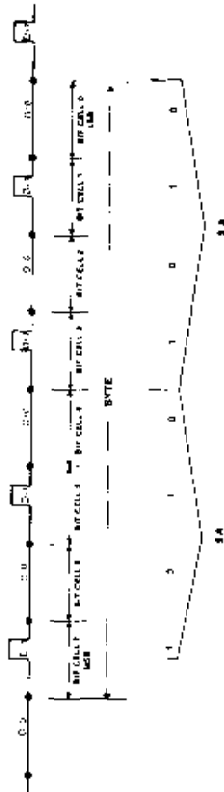

Figure 3.3 One Byte on Diskette
A byte as recorded on the disk consists of eight (8) consecutive bit cells. The most significant bit cell is usually referred to as bit cell 7, and the least significant is bit cell 0. When reference is made to a specific data bit (i.e. data bit 5), it is with respect to the corresponding bit cell (bit cell 5). Data is written and read serially, one bit at a time. Thus, during a write operation, bit cell 7 of each byte is written first, and bit cell 0 is written last. Correspondingly, when data is being read back from the diskette, bit cell 7 is read first and bit cell 0 is read last. Figure 3.3 illustrates the relationship of the bits within a byte.